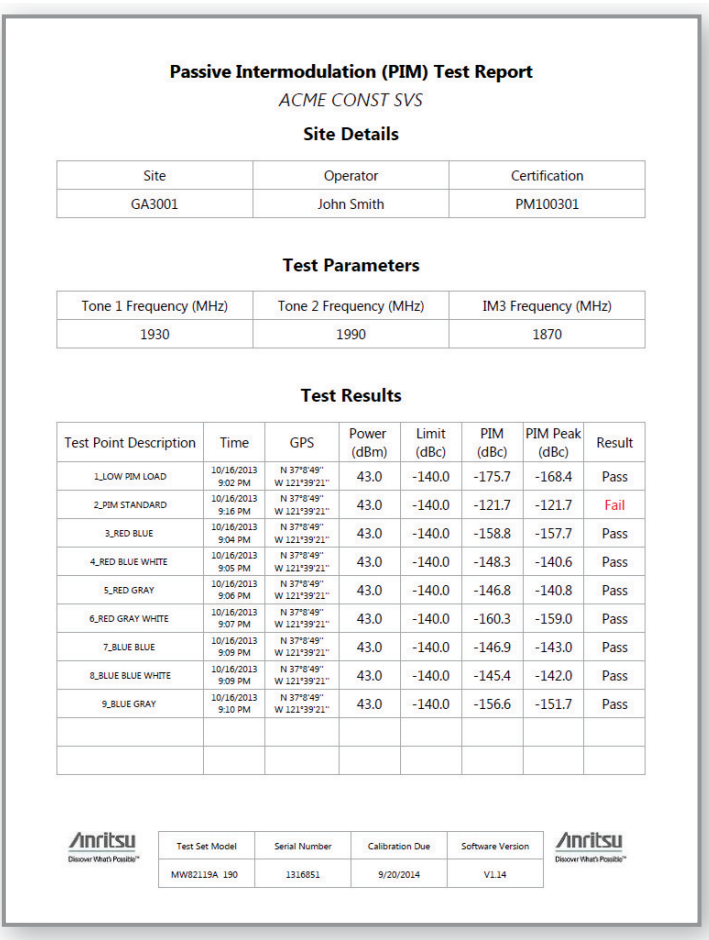

Figure 7-11. Generated Tabular PIM Sweep Report
3. A window opens to provide you with the opportunity to name the report and to select the save location. The select **Save**. See Figure 7-11 on page 7-12 for a report example
Figure 7-11 illustrates a tabular PIM sweep report.